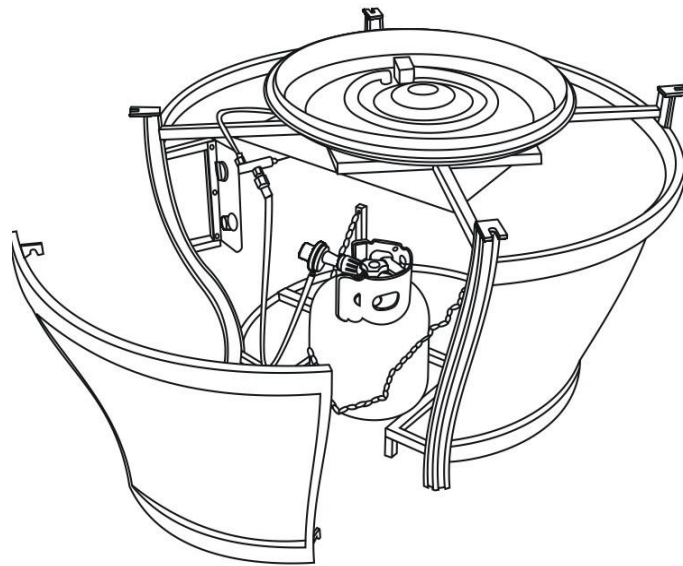

Figure 6
4. Open the tank door, place the tank in the holder and use the chain to hold the tank. Connect the regulator as shown in Figure 6. Turn the handle clock-wise to tighten. Turn the handle counter clock-wise to remove. The hose must point down. Open the control door and check that the valve is turned all the way clockwise to the “OFF” position. Open the tank valve. Apply a solution of soapy water to the tank-regulator connection and to the valve-hose connection to check for leaks. If soap bubbles continue to form, the connection has a leak. If a leak is found, close the tank valve and tighten all connections. **NEVER USE A FLAME TO CHECK FOR LEAKS.**